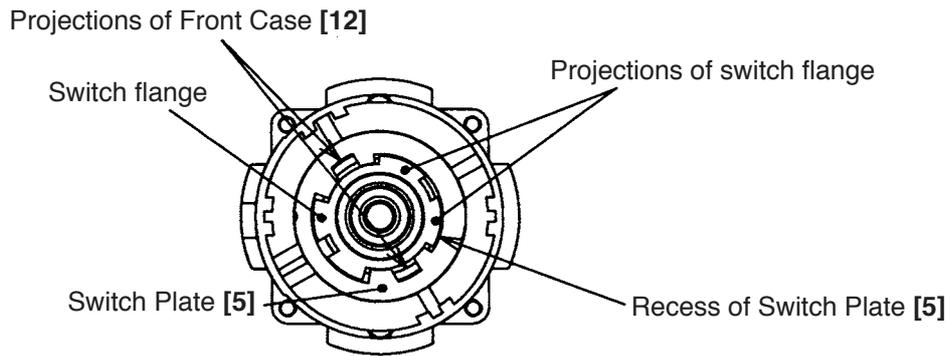
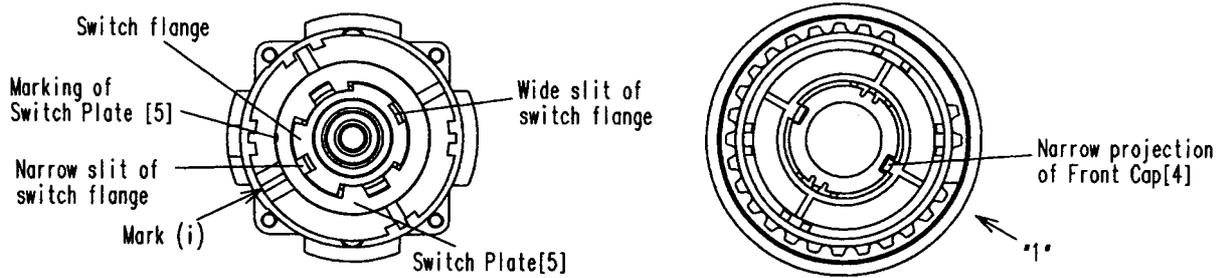

Fig. 4
Fig. 16
Turn the switch flange so as to fit the projection of the switch flange to the recess of the Switch Plate [5], then remove the Switch Plate [5] from the Front Case [12]. (See Fig. 4)
- ① Mount the Switch Plate [5] aligning with the projections of the Front Case [12] as shown in Fig. 4.
- ② Mount the Click Spring [11] to the Front Case [12].
- ③ When the Nut [6] is screwed in the Front case [12] about 1-11/12 turns (690°), the mark (i) of the Nut [6] and the marking of Switch Plate [5] are positioned as shown in Fig. 16. Set the narrow slit of switch flange as shown in Fig. 16. Mount the Front Cap [4] aligning the narrow projection of Front Cap [4] with the mark (i) of the Nut [6]. (The narrow projection of Front Cap [4] is positioned at "1" when viewed from the outside.)